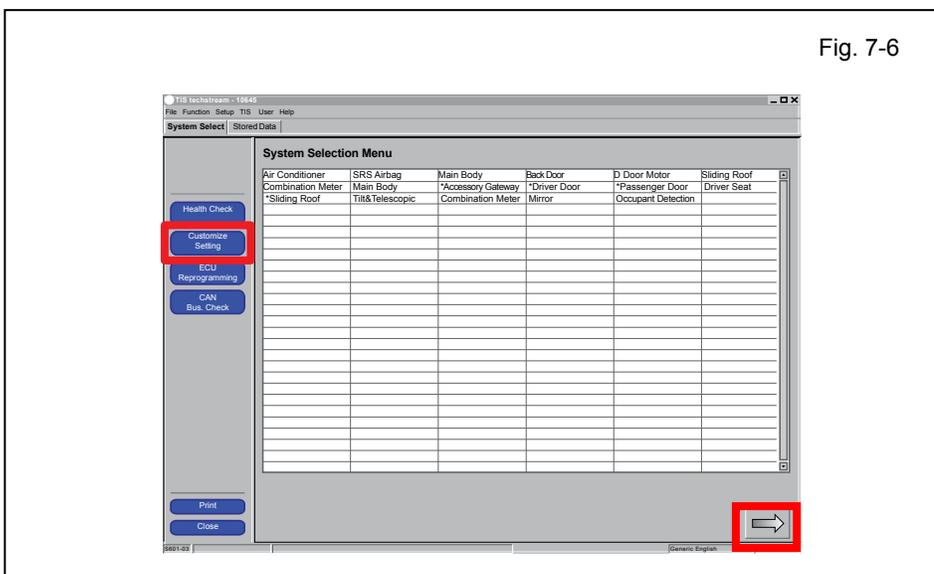

Fig. 7-6
- i. Click “Customize Setting.” (Fig. 7-6)
- j. Click  (Fig. 7-6).